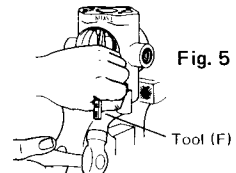

Fig. 5
3. With care tap out both **CYLINDER SLEEVES** (Fig. 5) including **PISTON ASSEMBLIES** (Fig. 24).